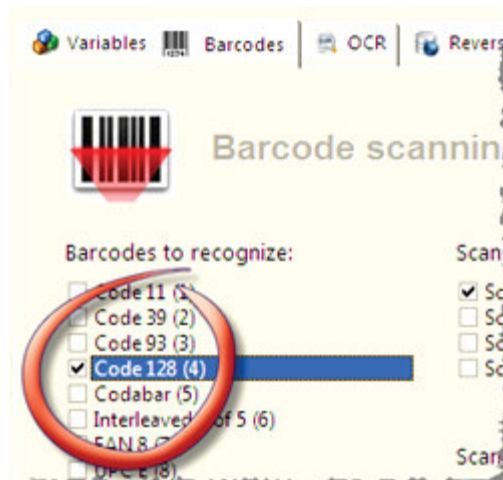

FIGURE 47 - activating barcode recognition.
The label of the barcode types provides the key to referencing the barcode value. In Figure 47 the type 128 checkbox has the number 4 in parenthesis: (4) This indicates that the number 4 will uniquely reference the barcode value for type 128 barcodes, as the final RGB value in the following RGB scheme: 141, 219, 4.